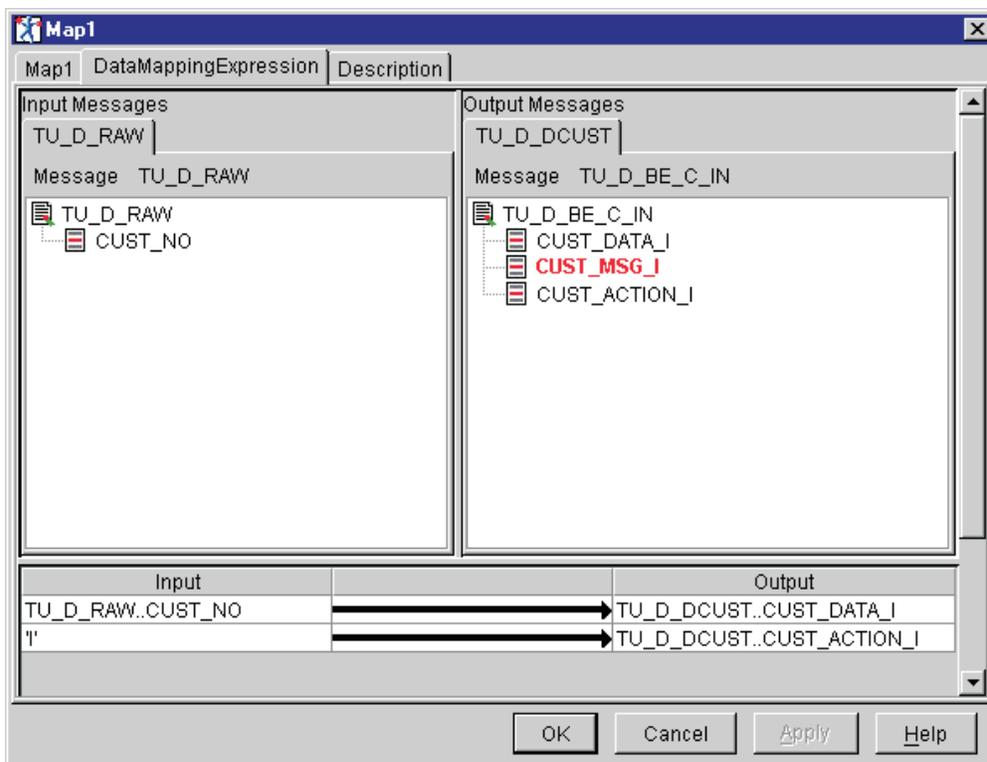

Figure 32. Mapping for Map1 node
1) Perform the mapping for the Map1 node as listed in Table 11 on page 49 and shown in Figure 32 on page 50. This map passes the customer number and inquire action indicator 'I' to the DPL program DFHMABP4.
- b) Left click on the CUST\_NO field under the TU\_D\_RAW message (view input message on right of panel) and drag the mouse cursor to the CUST\_DATA\_I field under the TU\_D\_BE\_C\_IN message (view output message on left of panel). This will create a mapping between the two fields (see Table 11 and Figure 32 on page 50).